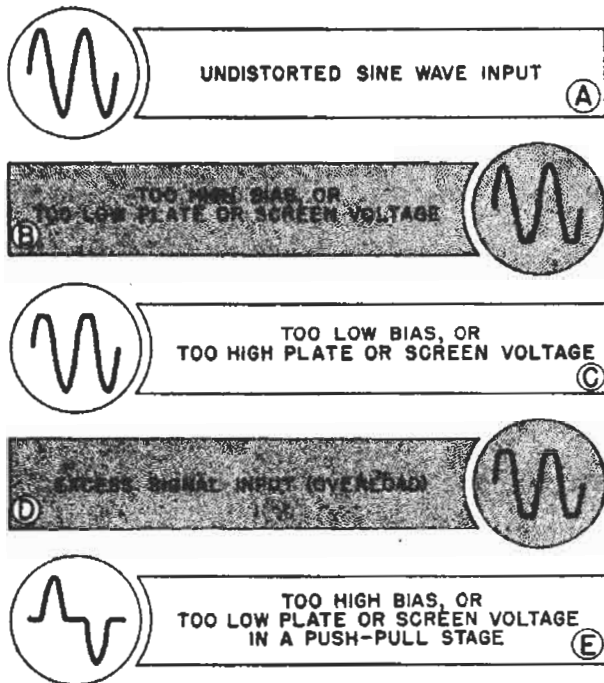

FIG. 19. These are the c.r.o. patterns which disclose conditions in an amplifier.
► A number of typical c.r.o. patterns and their probable causes are shown in Fig. 19. These patterns are for a c.r.o. with negative input polarity;* if the input polarity of your c.r.o. is positive, the pattern will be inverted. The actual causes, of course, are found when